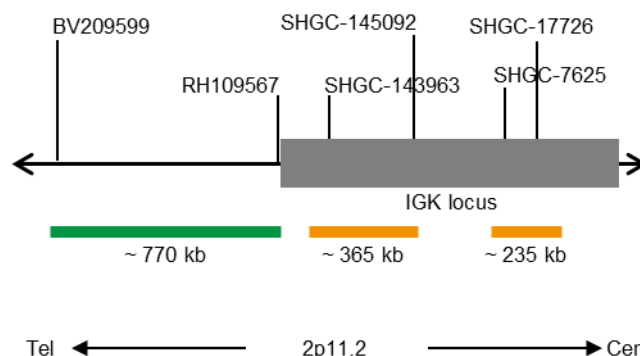

Fig. 1: SPEC IGK Probe map (not to scale)
- ZyGreen (excitation 503 nm/emission 528 nm) labeled polynucleotides (~10.0 ng/μl), which target sequences mapping in 2p11.2* (chr2:88,382,616-89,153,517) distal to the IGK breakpoint region (see Fig. 1).
- ZyOrange (excitation 547 nm/emission 572 nm) labeled polynucleotides (~4.5 ng/μl), which target sequences mapping in 2p11.2* (chr2:89,246,977-89,609,390 and chr2:89,853,315-90,089,156) proximal to the IGK breakpoint region (see Fig. 1). Due to homologous sequence segments proximal to the IGK breakpoint region, the orange probe has two hybridization regions in close proximity.